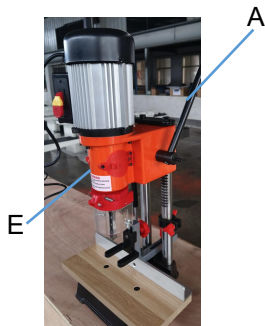

Fig. 2
1. Raise mortising machine head (E) Fig. 2, to the up position by turning handle (A) clockwise.